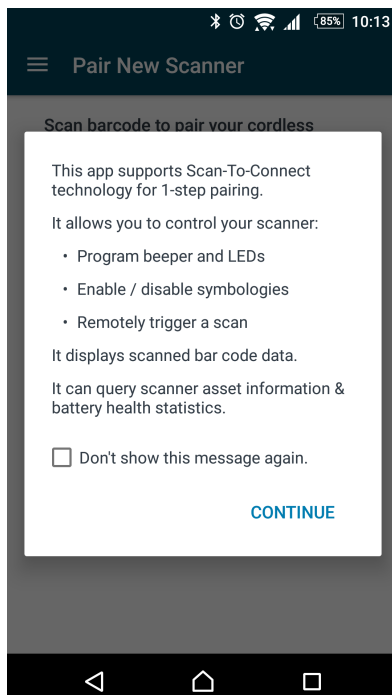

Figure 1-1 *Scanner Control App - Overview*
2. After the splash screen appears, the overview message screen displays (*Figure 1-1*).